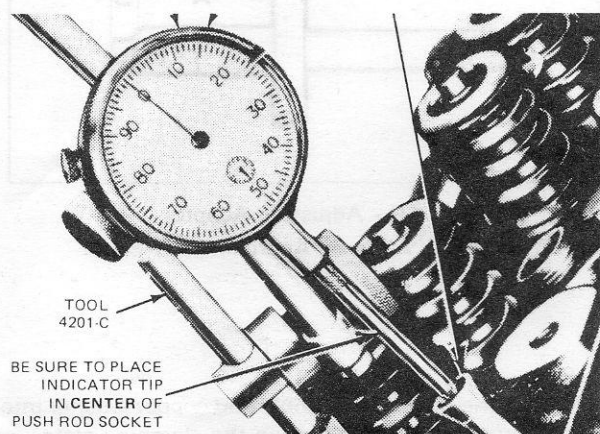

Fig. 6 - Testing Camshaft Lobe Lift - Typical
3. Make sure the push rod is in the valve lifter socket. Install a dial indicator so that the actuating point of the indicator is in the push rod socket and in the same plane as the push rod movement (Fig. 6).